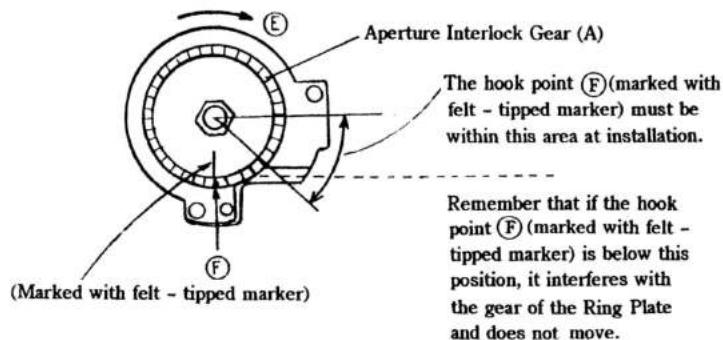

Fig. 36
- 4) Turn the hook point **(F)** (marked with a felt - tipped marker) of the spiral spring on the Aperture Interlock Gear (A) of the Aperture Code Ass'y (1AMG0600) by about 300 degrees in the direction of the arrow **(E)**. With the hook point in this position, install the Aperture Code Ass'y in the Mirror Box and tighten the Aperture Code Ass'y Setscrews (61913026) × 2. (See Fig. 36)